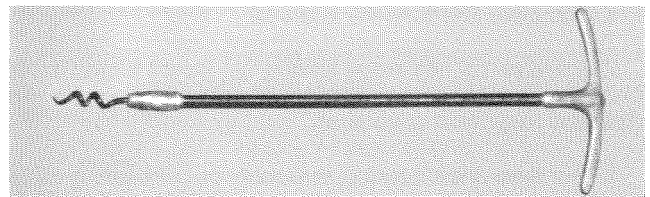

Figure 4-2. Packing Removal Tool
1. Remove packing gland nuts (F), and slide gland (21) and slinger ring (20) back along drive shaft (14).
3. Use a pair of packing extractors (Figure 4-2.) to remove four packing rings (22), lantern ring halves (23), and two additional packing rings (22).
3. Remove gland adjustment nuts (F), gland studs (H), and gland halves (21) from stuffing box.
4. Remove packing rings (22). Using flexible packing extractors (See Figure 4-2.) best does this. Use two extractors simultaneously on opposite sides of each ring. Pull evenly.
5. Remove lantern rings (23) in similar fashion. Twist split rings to remove from shaft.